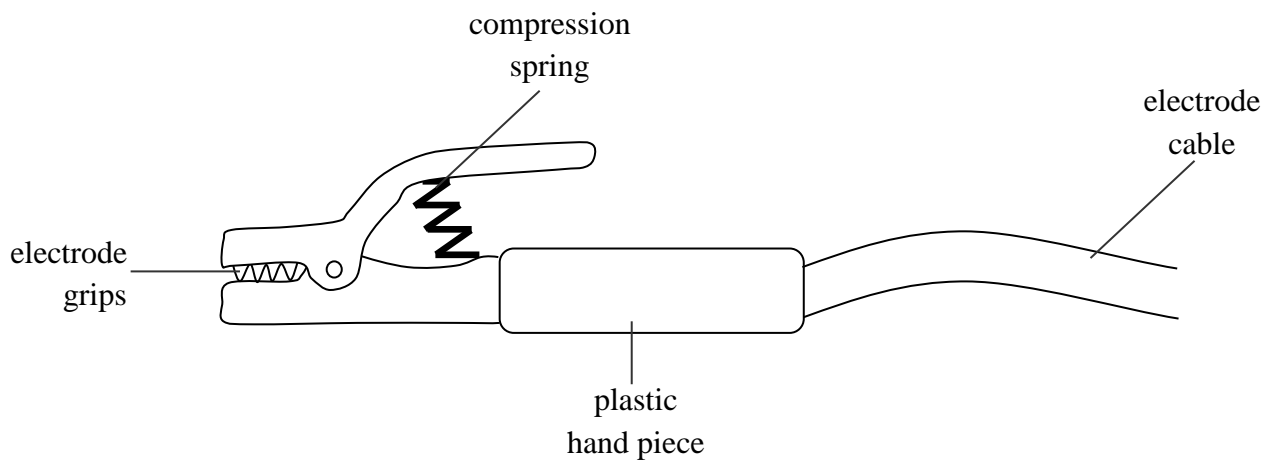

Figure 2: Detailed electrode holder
d) Study carefully **Figure 2**.